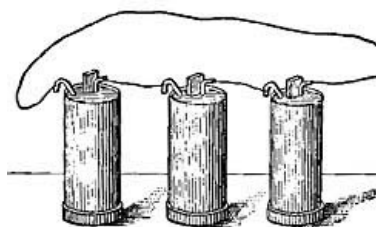

FIG. 200.—A battery of three cells.
strength. If three cells are arranged as in Figure 200, so that the copper of one cell is connected with the zinc of another cell, the electromotive force of the battery will be three times as great as the E.M.F. of a single cell. If four cells are arranged in the same way, the E.M.F. of the battery is four times as great as the E.M.F. of a single cell; when five cells are combined, the resulting E.M.F. is five times as great.
**288. Heat.** Any one who handles electric wires knows that they are more or less heated by the currents which flow through them. If three cells are arranged as in Figure 200 and the connecting wire is coarse, the heating of the wire is scarcely noticeable; but if a shorter wire of the same kind is used, the heat produced is slightly greater; and if the coarse wire is replaced by a short, fine wire, the heating of the wire becomes very marked. We are accustomed to say that a wire offers resistance to the flow of a current; that is, whenever a current meets resistance, heat is produced in much the same way as when mechanical motion meets an obstacle and spends its energy in friction. The flow of electricity along a wire can be compared to the flow of water through pipes: a small pipe offers a greater resistance to the flow of water than a large pipe; less water can be forced through a small pipe than through a large pipe, but the friction of the water against the sides of the small pipe is much greater than in the large one.
**296. An Electric Current acts like a Magnet.** In order to understand the action of the electric bell, we must consider a third effect which an electric current can cause. Connect some cells as shown in Figure 200 and close the circuit through a stout heavy copper wire, dipping a portion of the wire into fine iron filings. A thick cluster of filings will adhere to the wire (Fig. 210), and will continue to cling to it so long as the current flows. If the current is broken, the filings fall from the wire, and only so long as the current flows through the wire does the wire have power to attract iron filings. An electric current makes a wire equivalent to a magnet, giving it the power to attract iron filings.